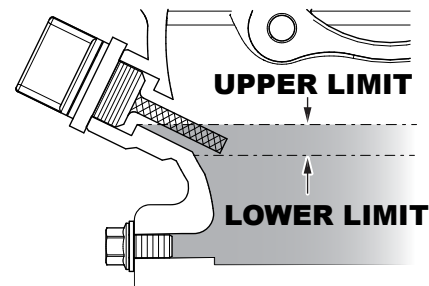

Figure 10. Engine Oil Dipstick (Oil Level)
4. If the oil level is low (Figure 10), fill to the edge of the oil filler hole with the recommended oil type (Table 6). Maximum oil capacity is 1.16 quarts (1.1 liters).